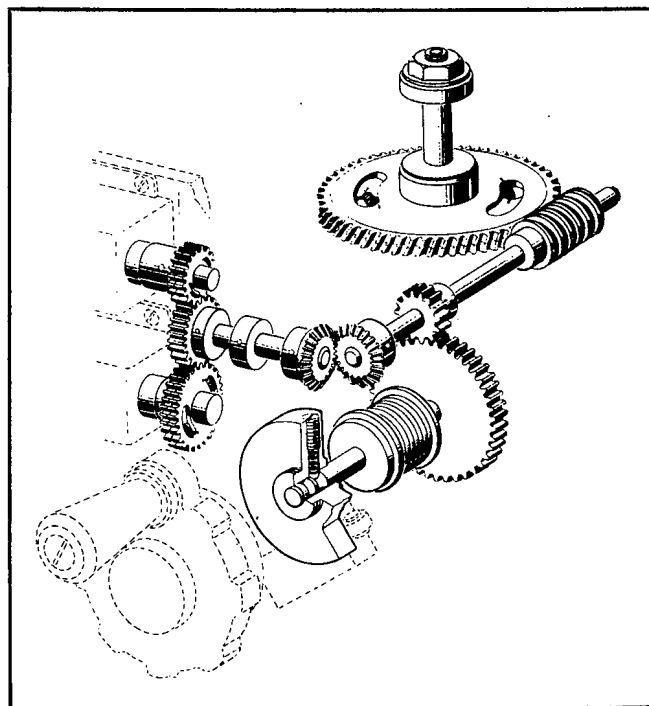
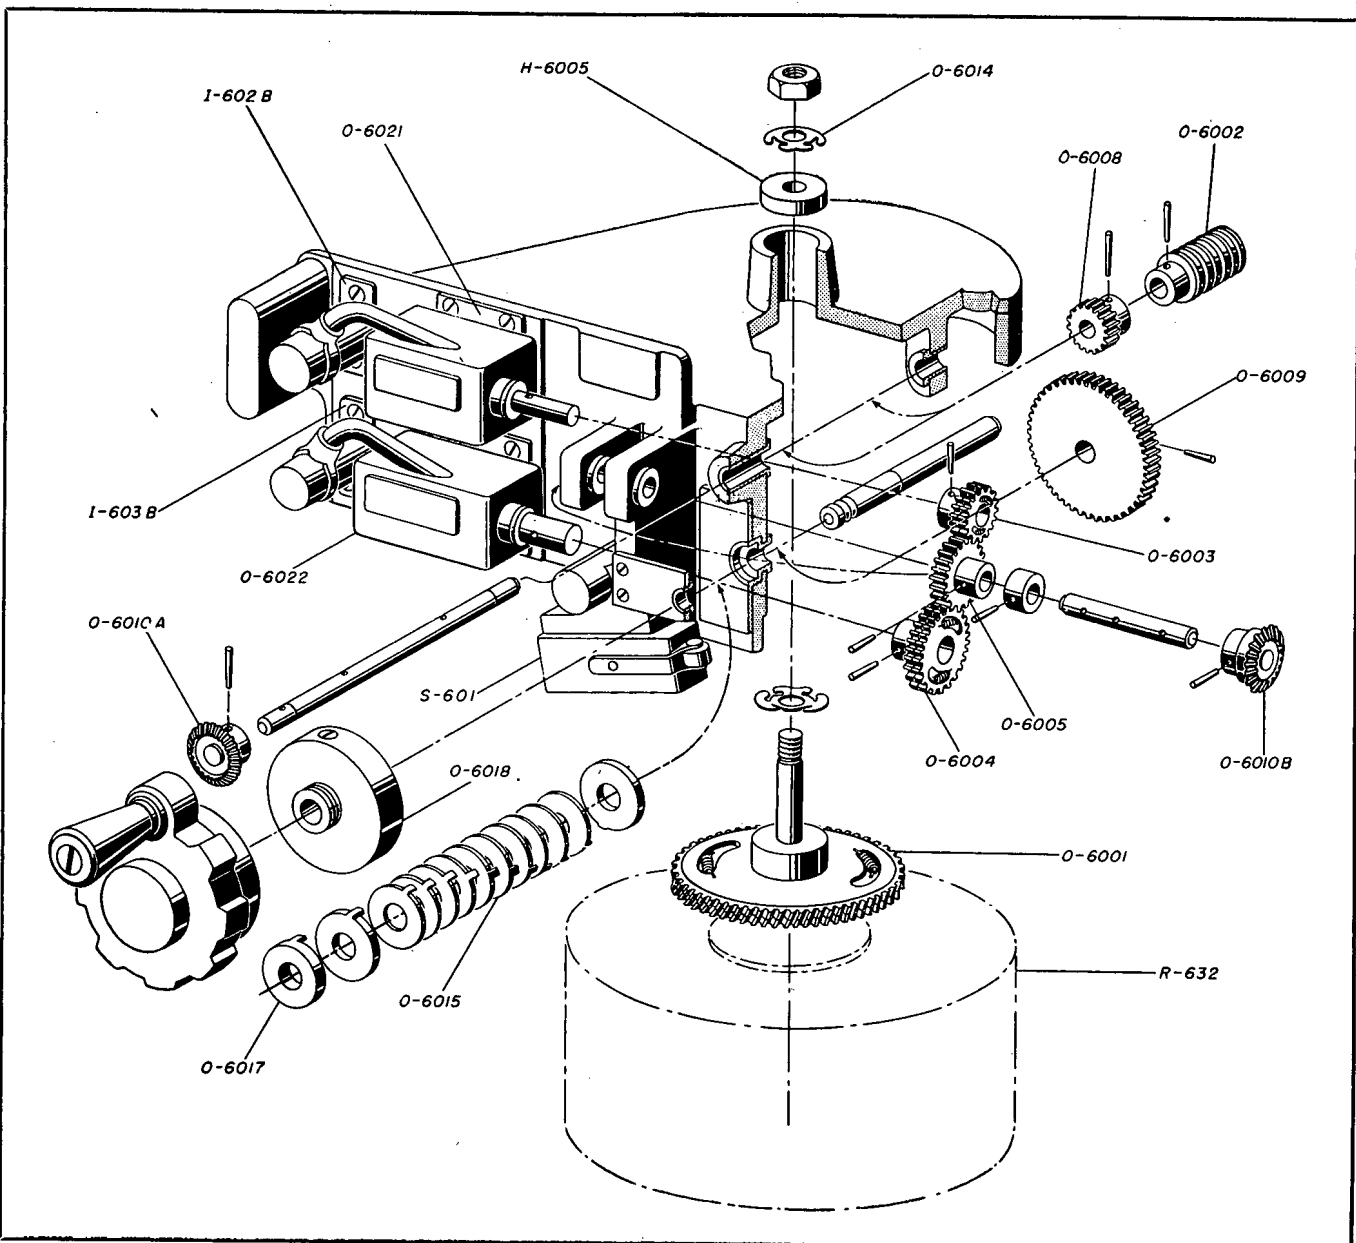

Figure 7-39. Counter Gear Train, Schematic Diagram
Figure 7-40. Counter Gear Train, Exploded
(1) The counter gear train is operated by the RANGE STEP control to drive the helipot and the counters. The counters register a range that is dependent upon the setting of the helipot and consequently, the position of the range step. The mechanical principle of the gear train is simple. It is illustrated in Fig. 7-39. It is not likely that the gears and other parts should ever have to be replaced unless they suffer damage in battle or due to carelessness. The procedure for removing the gear train is given in the following paragraphs.
(2) Pull the chassis from the case until it locks.
(3) Disconnect the helipot, fuses, pilot lamps and the microswitch S-601. Pull the cables back out of the way.
(4) Remove the bezel by unscrewing the thumb-screws that hold it to the front panel.
(5) Unscrew the large slotted screw that holds the RANGE STEP control in place and remove the control.
(6) Remove the two countersunk screws at the left side of the panel opening. These screws are near the pilot lights.
(7) Remove the three screws around the RANGE STEP control. One of these screws is on the left and the other two are on the right of the control.
(8) Support the assembly with one hand and remove the two screws on the right-hand side of the chassis below the terminal strips.
(9) Let the rear of the counter assembly drop down. Then slide it back toward the rear of the chassis. This allows the front of the assembly to be pulled downward between the rails of the chassis frame.
(10) The disassembly of the counter assembly is shown in Fig. 7-40. This figure shows the location of all of the parts and the screws and taper pins that